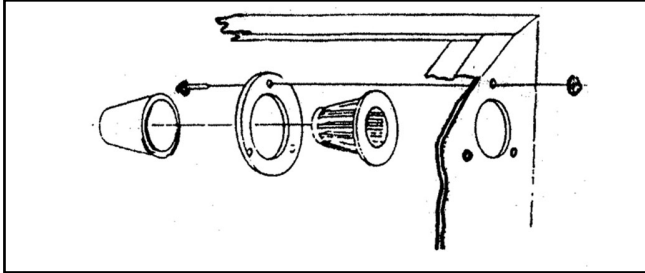

Figure 1. Filter installation.
1. Install the filter assembly with the screws and nuts (**Figure 1**).